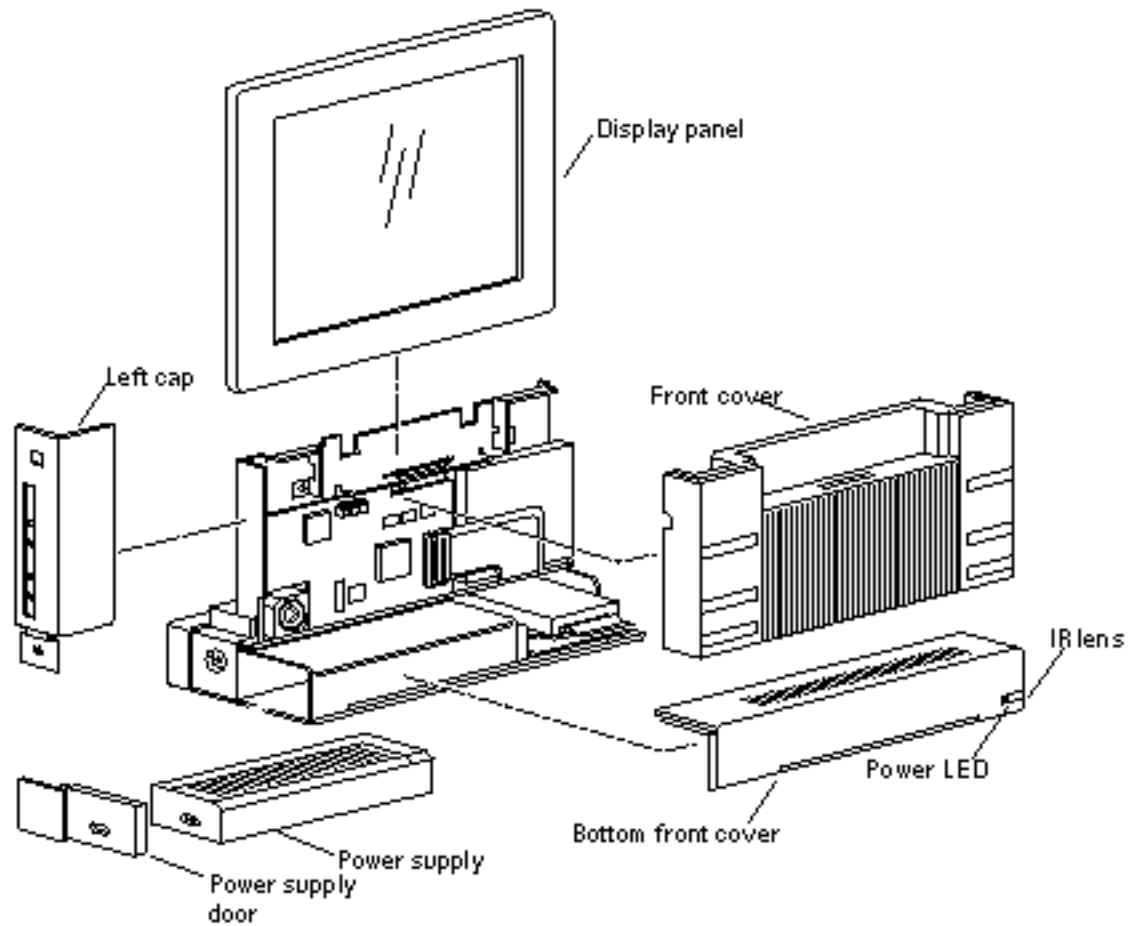

Figure 1-1 Front View—Exploded
- Figure 1-1 shows the front view of the unit